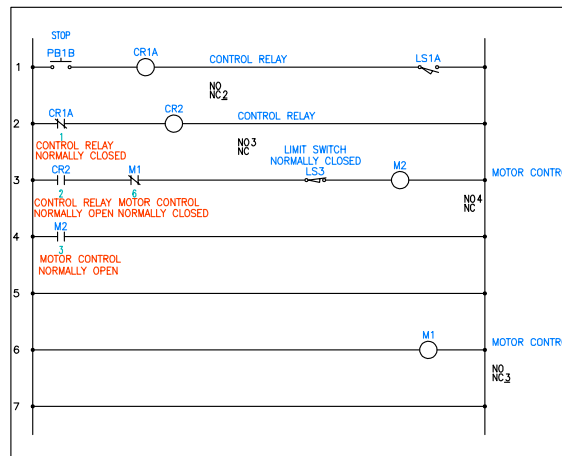

Figure 6-49 Components inserted in the ladder
30. Enter **18,18** at the Command prompt and press ENTER; the **Insert / Edit Component** dialog box is displayed. By default, LS1A is displayed in the edit box of the **Component Tag** area in this dialog box. Next, choose the **OK** button; LS1A is inserted into rung 1 of drawing. Figure 6-49 shows the ladder with components inserted in it.
31. Choose the **Move/Show Attribute** tool from **Schematic > Edit Components > Modify Attributes** drop-down; you are prompted to select the object. Select the **Motor Control** attribute of the **Motor Starter Coil** and press ENTER; you are prompted to specify the base point. Specify the base point at the left corner of the attribute and move the attribute, refer to Figure 6-49.